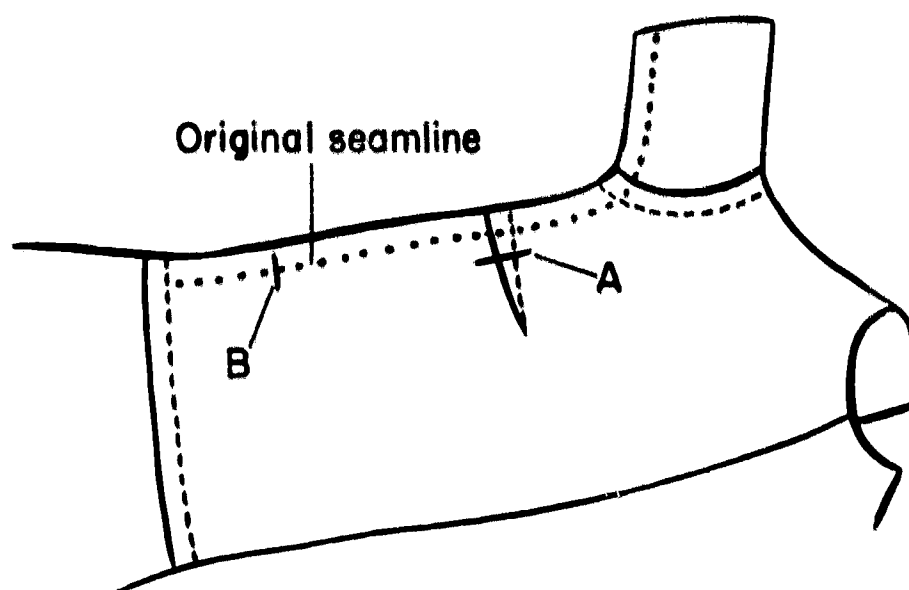

Figure 35.
4. Just below the armhole make a chalk mark at the side seam the same distance from the seamline as the amount recorded on the tag in Step 2 (see A on Figure 35). Then make another chalk mark down the side seam where the new line of stitching is to join the original line of stitching (see B on Figure 35). This was the second measurement recorded in Step 2. Join these two marks with a chalk line.